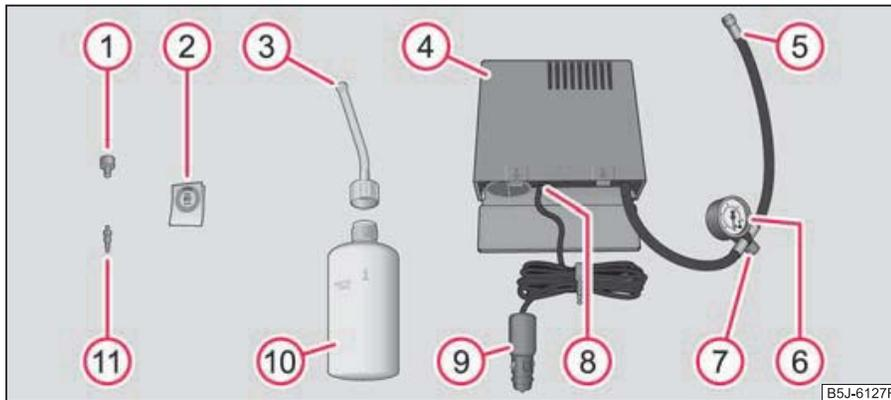

Fig. 158 Components of the tyre repair kit
- Stick the sticker ② ⇒ fig. 158 on the dash panel in view of the driver.
- Use the valve remover ① to remove the valve core and place it down on a clean surface. ■
- Forcefully shake the tyre inflator bottle ⑩ ⇒ fig. 158 several times.
- Firmly screw inflation hose ③ onto the tyre inflator bottle in a clockwise direction ⑩. The film on the cap is pierced automatically.
- Remove the plug from the inflation hose ③ and plug the open end fully into the tyre valve.
- Hold the bottle ⑩ with the floor facing upwards and fill the whole sealing agent in the tyre inflator bottle into the tyres.
- Screw the valve core back into the tyre valve using the valve remover ①.
- Screw the tyre inflation hose ⑤ ⇒ fig. 158 of the air compressor firmly onto the tyre valve.
- Check whether the air release valve ⑦ is closed.
- Insert the plug ⑨ into the 12 Volt socket.
- Switch on the air compressor with the ON and OFF switch ⑧.
- If you cannot reach an air pressure of 2.0 - 2.5 bar, unscrew the tyre inflation hose ⑤ from the tyre valve.
- Screw the tyre inflation hose of the air compressor ⑤ firmly back onto the tyre valve and repeat the inflation procedure.